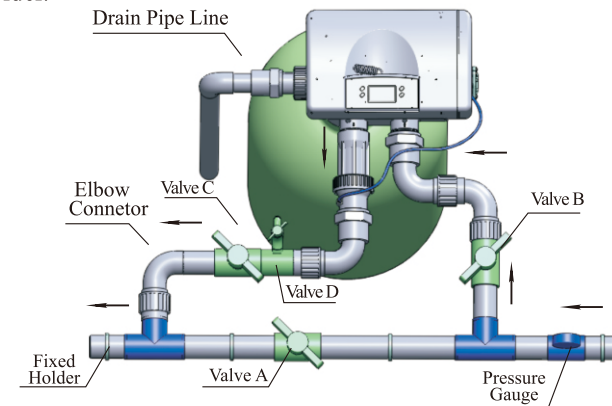

Figure 1-3
③Pipeline connection
a. As Figure 1-3 shows, install a pressure gauge in water inlet.